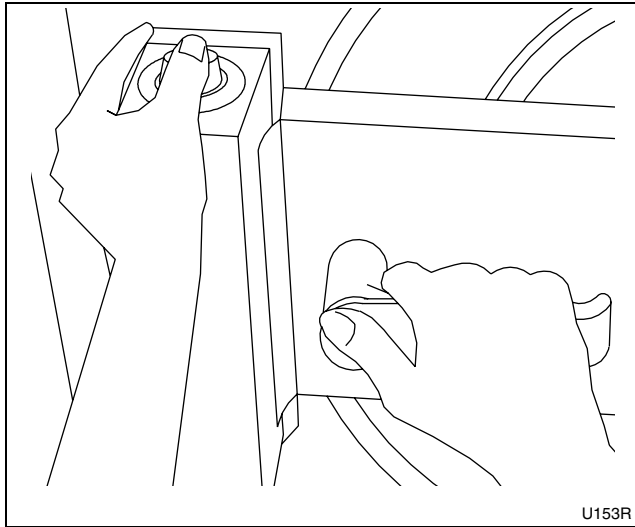

Figure 15
2. Use left hand to press and hold the door unlock button on top of the door box cover. Use right hand to turn door handle counterclockwise and open door. Refer to *Figure 15*.